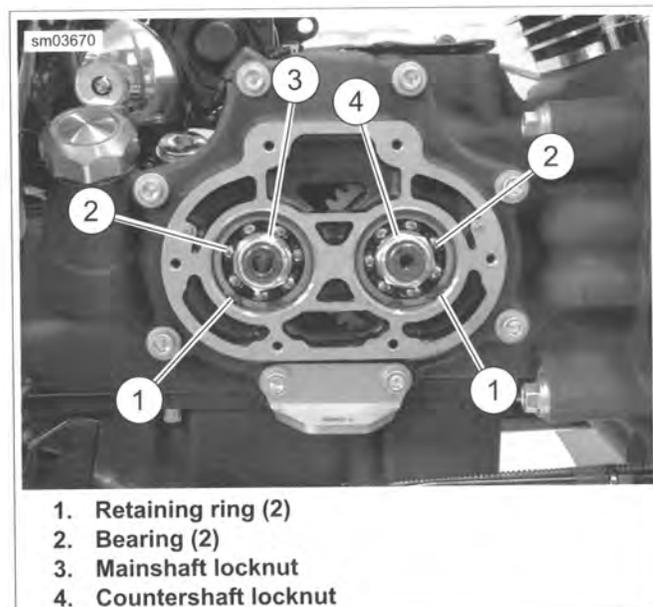

Figure 6-16. Bearing Housing Locknuts
- See Figure 6-16. Using dog rings, lock two gears in place. Temporarily place transmission assembly into transmission case.